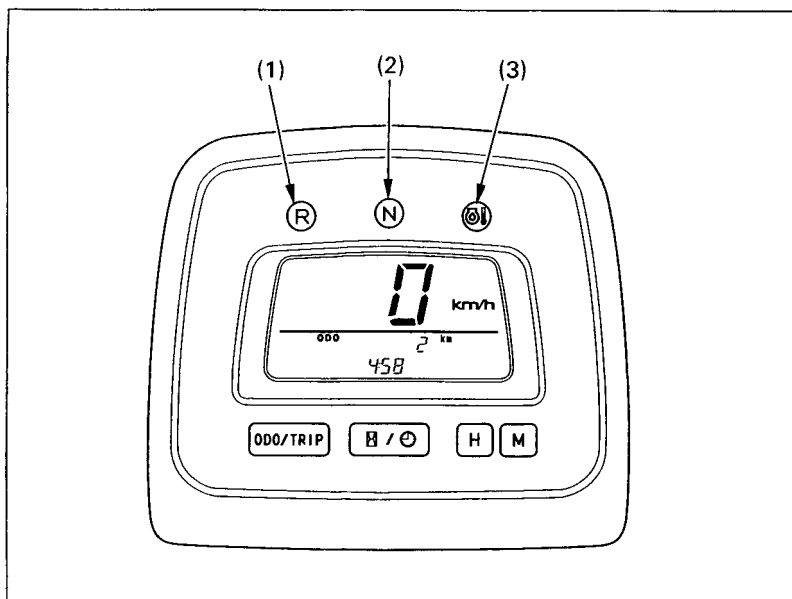

Fig. 2-14
The reverse indicator (1) and the neutral indicator (2) (Fig. 2-14) are located above the multi-function display.
If the engine oil gets too hot, the oil high temperature indicator (3) (Fig. 2-14) will light.